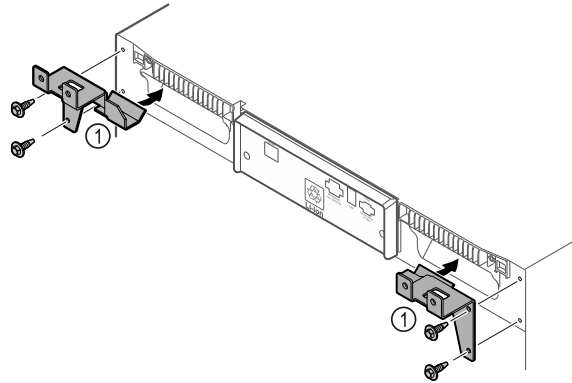

Fig. 10
- ▶ Mount retaining parts Fig. 10 (1) on the appliance using the supplied screws.